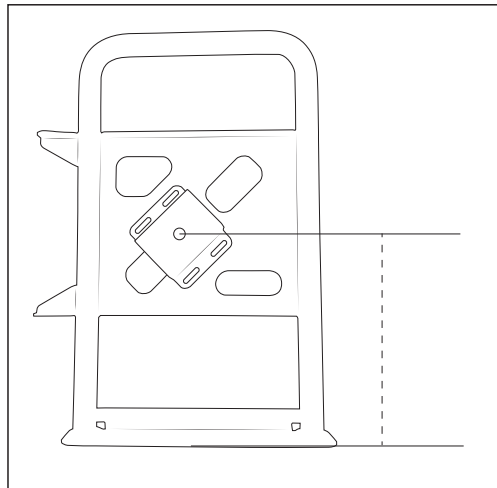

Figure 2
2. Use the final dimension from 1-B to position the Tire Mount on the Tire Carrier (fig. 2).